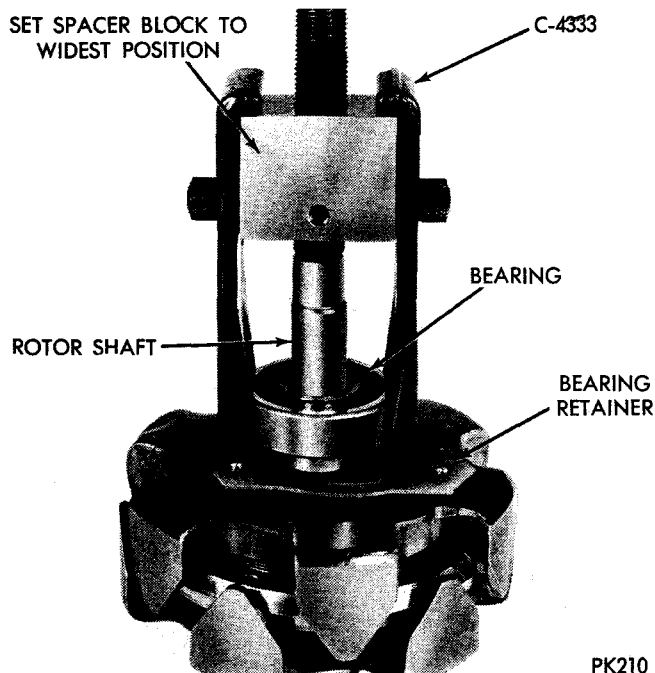

Fig. 54—Removing Drive End Shield Bearing
(4) The drive end shield bearing is an interference fit with the rotor shaft. Remove bearing with Puller Tool C-4333 (Fig. 54). Position spacer block of tool in widest position.